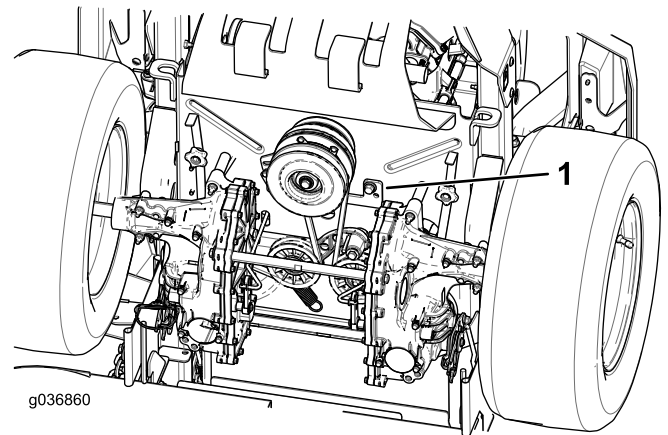

Figure 55
- Remove the clutch stop (Figure 55).
9. Install the clutch stop (Figure 55).